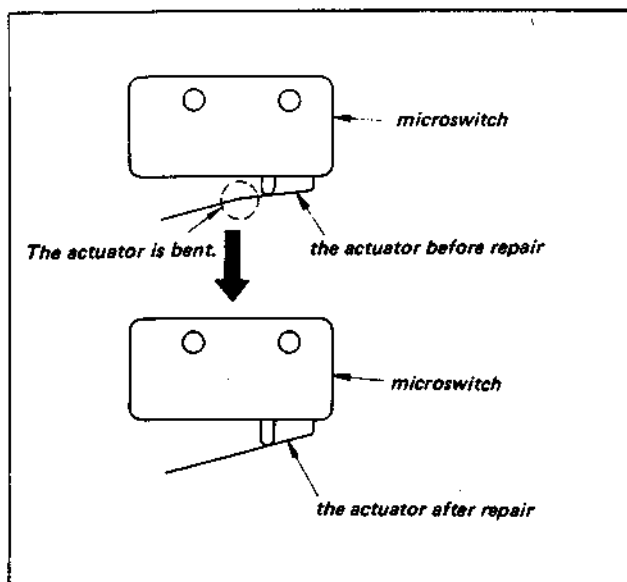

Fig. 3-28. Repair of the actuator
- 1) If the switch fails to come ON when a $\phi 1.2$ pin is inserted, loosen small screw ① and adjust by turning a little at a time in the direction of arrow (B).
- 2) If the switch comes ON when a $\phi 0.6$ pin is inserted, it is possible that the actuator is bent as shown in Fig. 3-28. Check it and straighten it out if necessary.